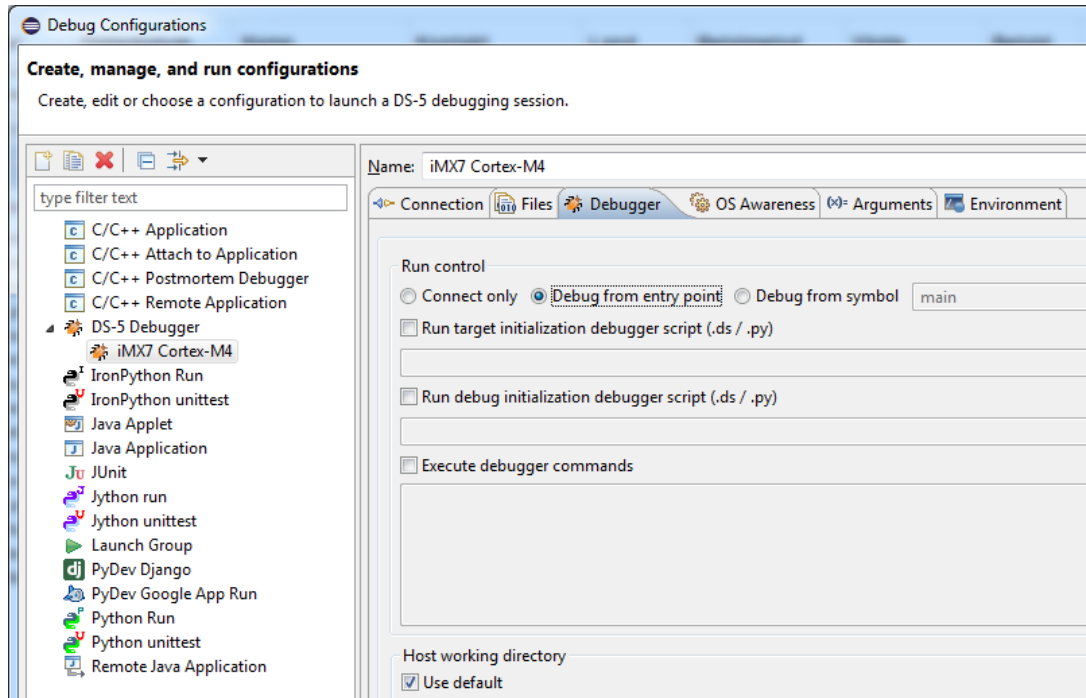

Figure 9 - Debug from entry point
- Go to the “Debugger” tab and select “Debug from entry point” as shown Figure 9.